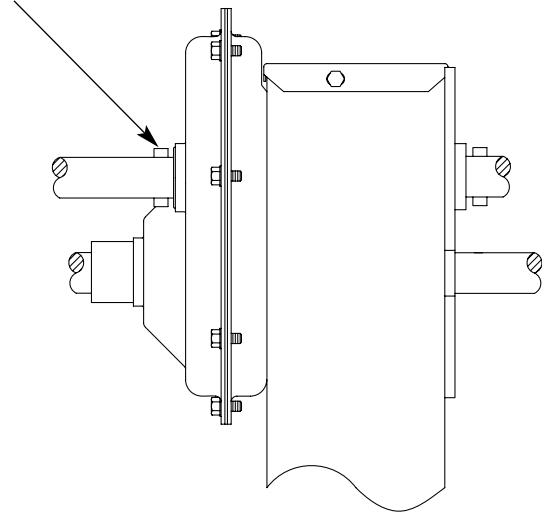

FIGURE 3 - DETERMINE FASTGEAR MODEL: 50,000 OR 51,000
3. Determine if the landing gear is a Model 51,000 or a 50,000. See **FIGURE 3**. The 51,000 has a rectangular mounting plate and eight bolt holes. For a Model 51,000 see Step A (below). The Model 50,000 has a tapered mounting plate and ten bolt holes. For Model 50,000 see Step B (page 3).